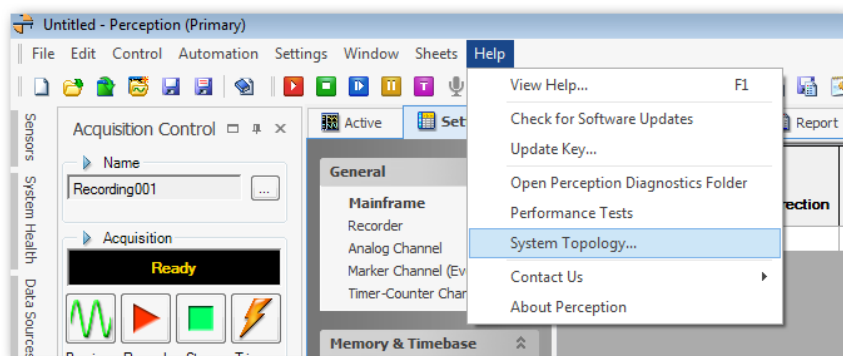

Figure 14.45: System Topology Help
- 1 In the menu bar choose **Help ▶ System Topology** (see Figure 14.45).